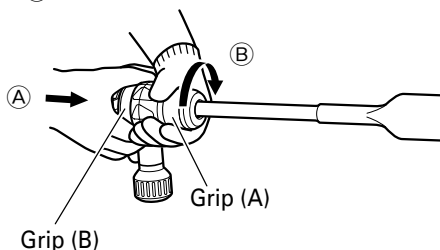

Fig. 4
- As shown in Fig. 4, the blade angle can be freely changed if the grip (A) is turned in the direction of (B) in a state where grip (B) is slid in the direction of (A).